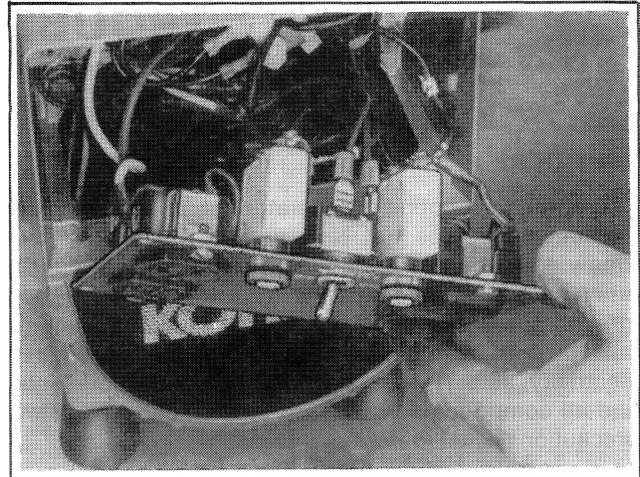

Figure 4-1. Removing Power Panel
1. Unscrew power panel from the end bracket. Figure 4-1.